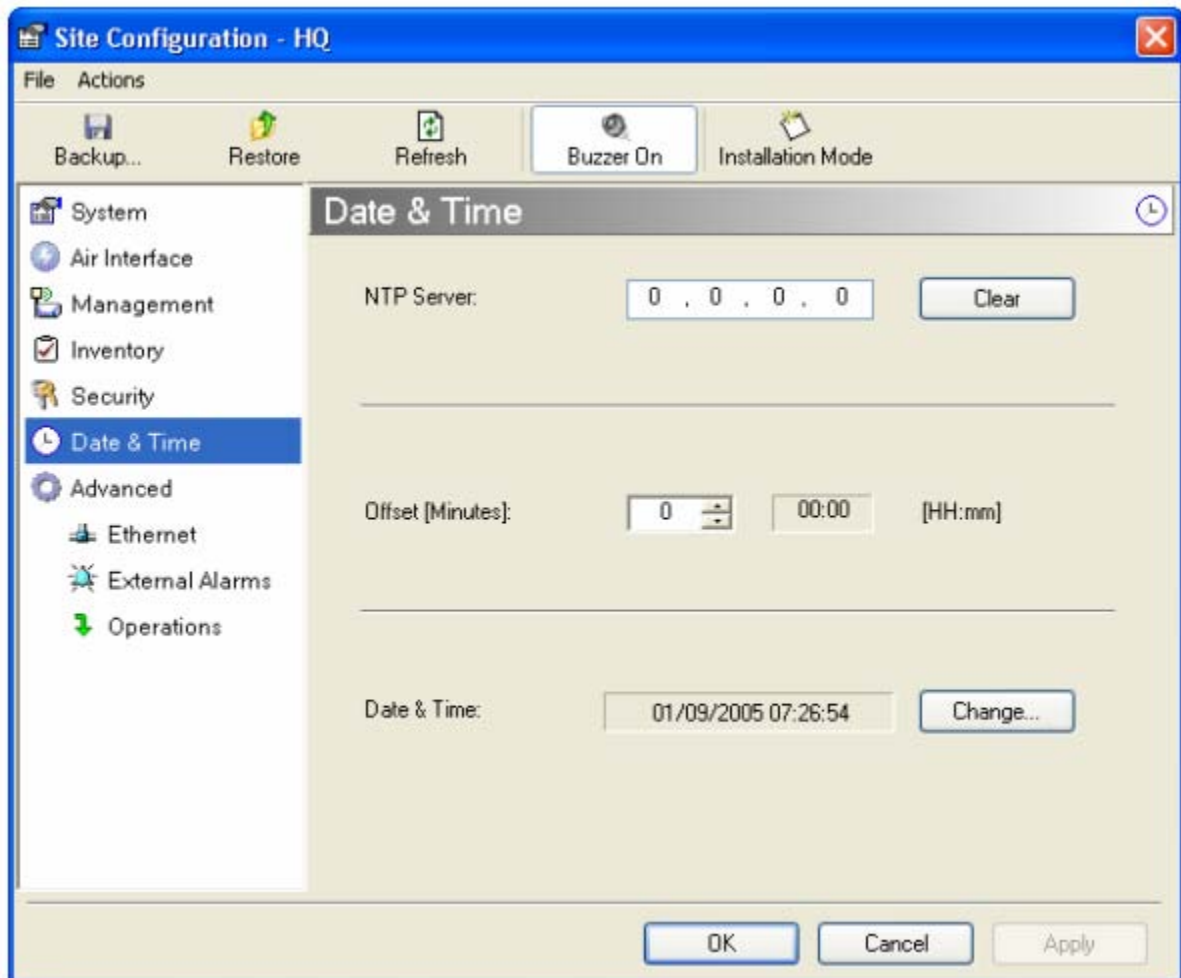

Figure 4-13. Date & Time configuration
3. Select Date & Time (see *Figure 4-13*).